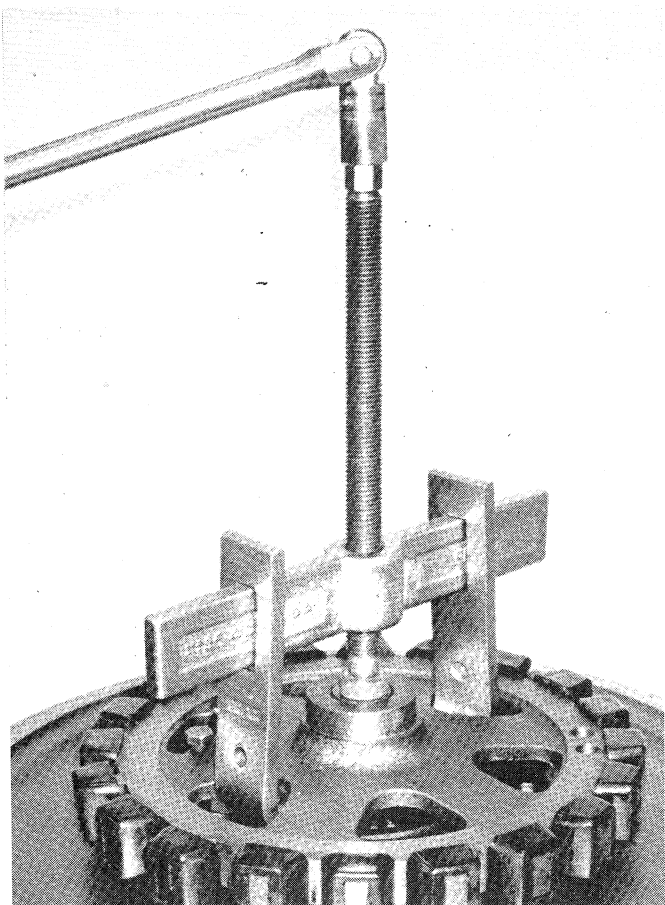

Figure 6-1. Removing Input Drive Spider.
7. Use a puller to remove drive spider (5). See Figure 6-1.